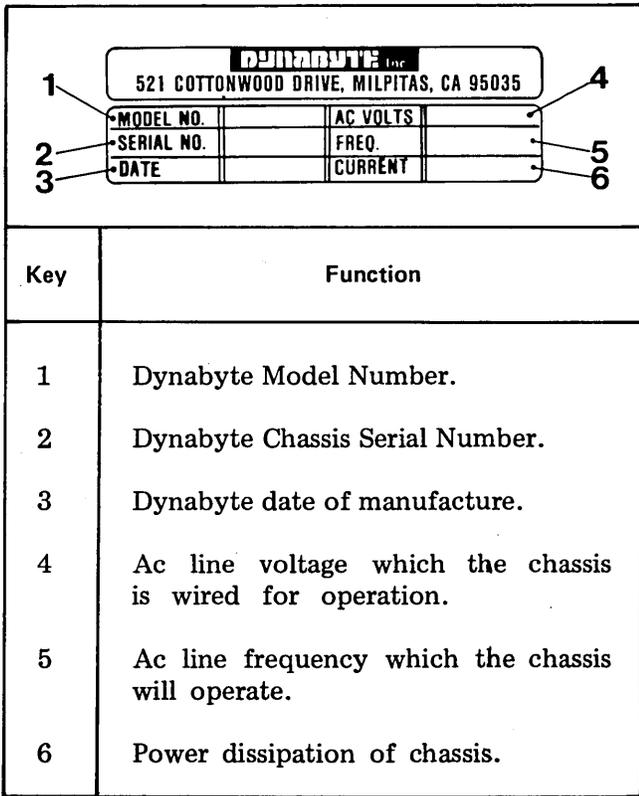

Figure 6-1 – Dynabyte Identification Plate
1	<p>Call Dynabyte Customer Support by telephone and provide the following information:</p> <ul style="list-style-type: none"> <li>(1) The nearest Dynabyte Authorized Service Center name and number if known.</li> <li>(2) The Dynabyte Model Number and Serial Number of the equipment. Figure 6-1 illustrates the Dynabyte Identification Plate for equipment. Normally this is located at the rear of the equipment.</li> </ul>